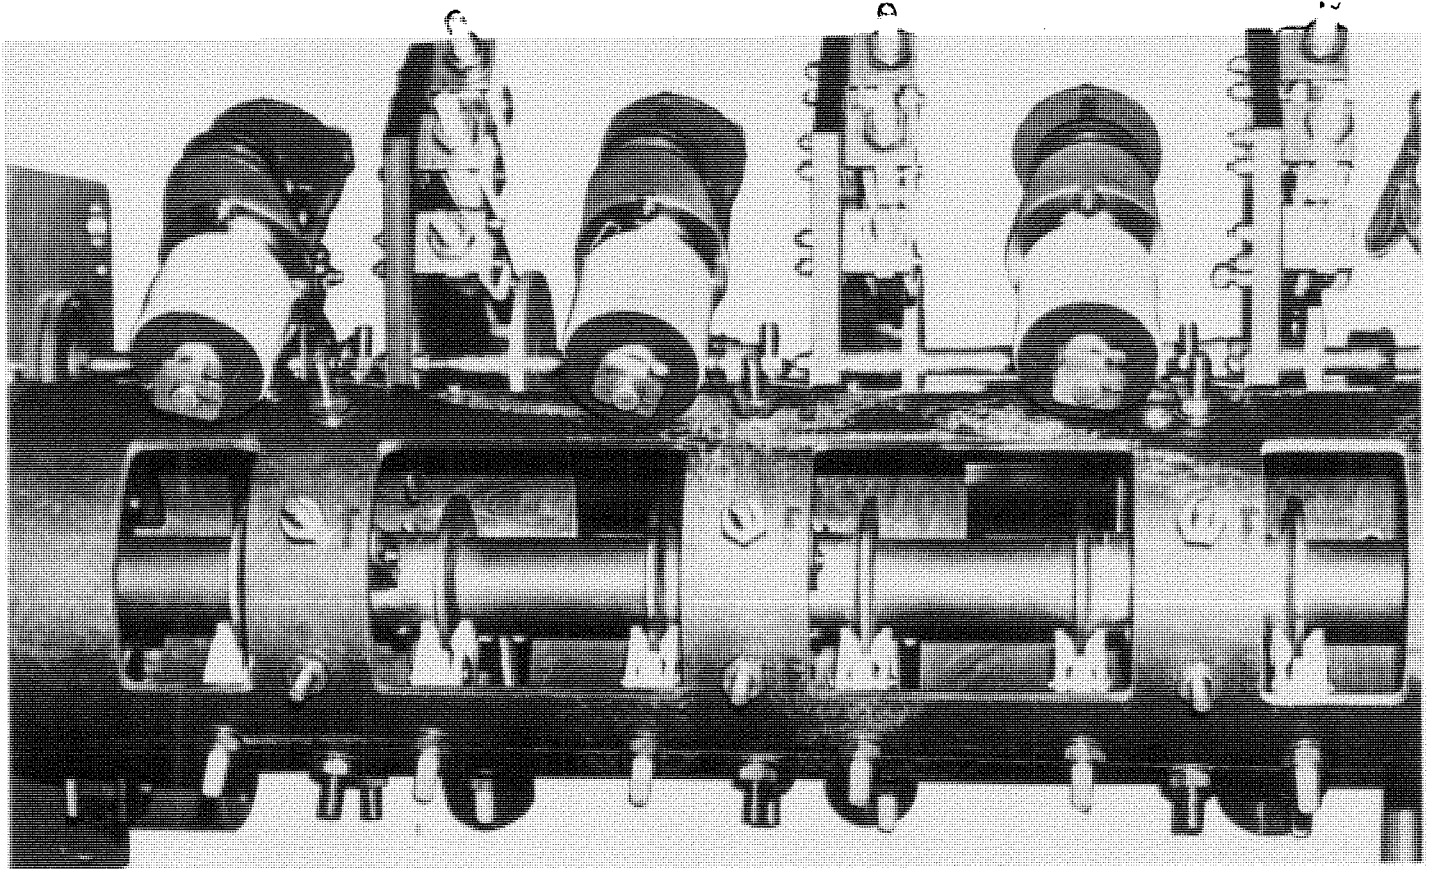
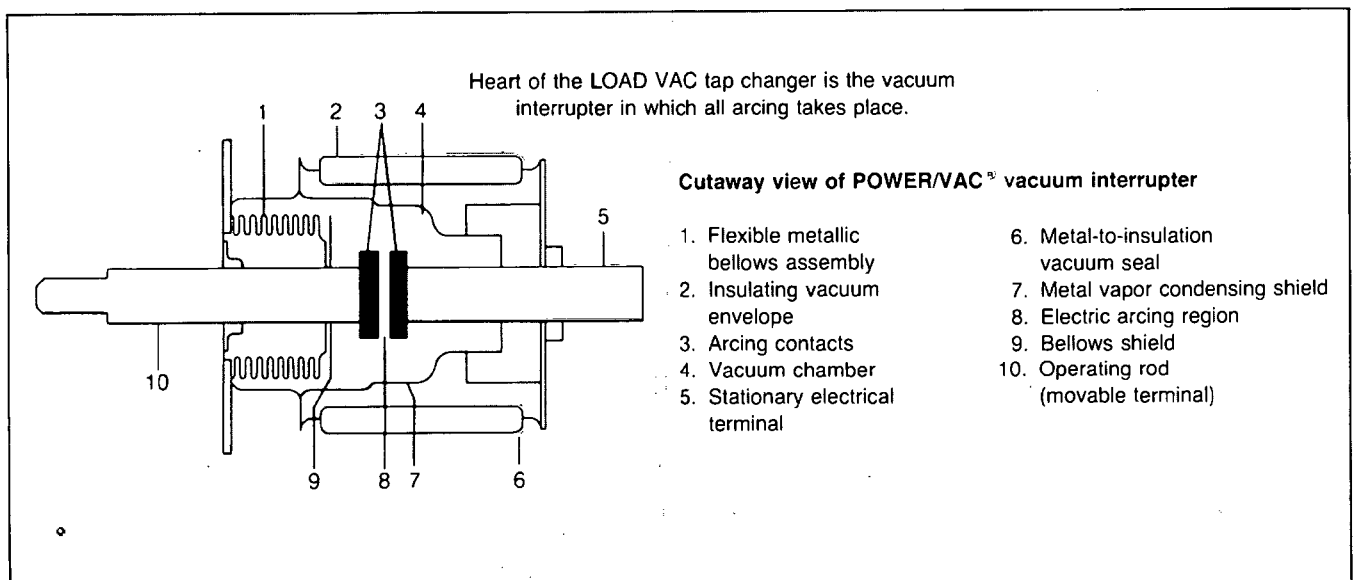

Fig. 1 — The LRT-200 switch mechanism
Fig. 2
signed to change transformer voltage ratios under load. The standard design (Fig. 1) provides a plus or minus 10 percent voltage regulation in 32 approximately 5/8 percent steps; 16 above and 16 below rated voltage. Vacuum interrupters (Fig. 2) are used to break the load current when
Optimum load sharing between transformers operating in parallel with automatic voltage control is insured through use of circulating current control circuits (Fig. 1). In the circulating current method of paralleling, the circulating current component is separated from the load current component and is applied to the LDC in a direction opposite to that of the load current. This reversed compensation effect causes the tap-selecting equipment to operate in a direction to reduce the circulating current to a minimum. Although any number of units can be paralleled using this method, only the corresponding phases of two units are shown. The circuit for each transformer includes a current transformer (CT), potential transformer (PT), voltage sensor (VS), and auxiliary transformer (LCT), paralleling reactor (XTR), and a line-drop compensator with adjustable resistance (RLDC) and reactance (XLDC) elements. Note that for proper parallel operation the CT's and PT's must be connected in the corresponding phases of each unit and produce voltages and currents of the same polarity.
To illustrate the function of these devices, Fig. 1 depicts the case where the no load output of unit number 1 is higher than that of unit number 2. The solid arrows indicate normal load currents and the dashed arrows indicate the circulating current which will result from the difference in output voltages. By virtue of their secondary winding interconnections, the auxiliary current transformers (LCT's) permit free flow of load current through the line drop compensator elements but block the flow of circulating current. The circulating current is forced through the paralleling reactors (XTR's). Note that the effect of the circulating current through the paralleling reactor is to oppose normal compensation on the unit with the higher output, unit number 1, and to add to the normal compensation on the other unit. This will result in voltage corrections in the direction which will reduce circulating currents. The reduction of circulating current is independent from the magnitude of load current and line drop compensator settings.
Fig. 1 — Circulating current method allows paralleled operation with existing transformers of either the resistance type or reactance type located in either the low voltage or high voltage windings.